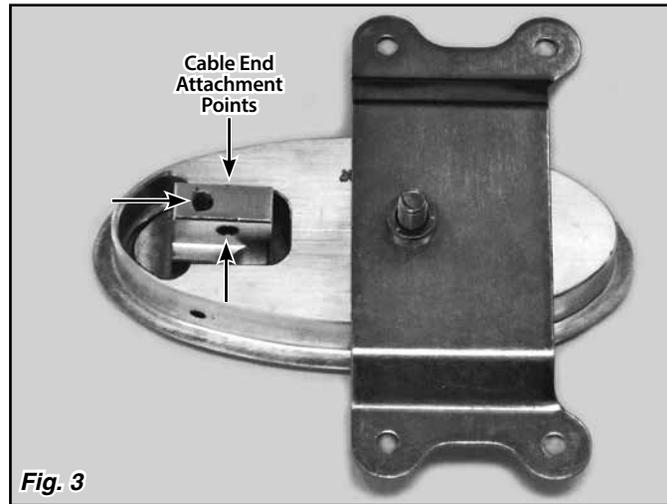

Fig. 3
Step 6: With the cable wire (not included) attached to the door latch (not included), route the cable wire around the shielded pulley (not included) and to the door handle. There are three possible holes where you can attach the cable end assembly (not included) to the door handle. **Fig. 3** Determine which one will give you the straightest pull on the cable wire, and attach the cable end assembly to that hole.